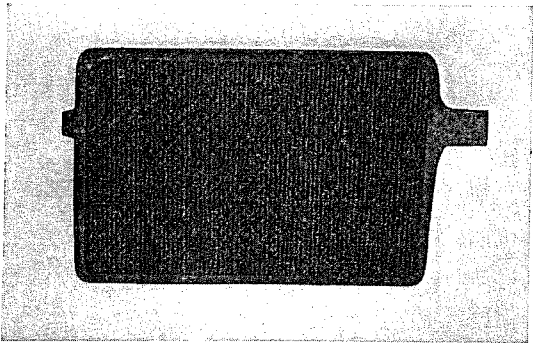

Fig. 5.69 Positive plates
1) Anode plate (Refer to Fig. 5.69)